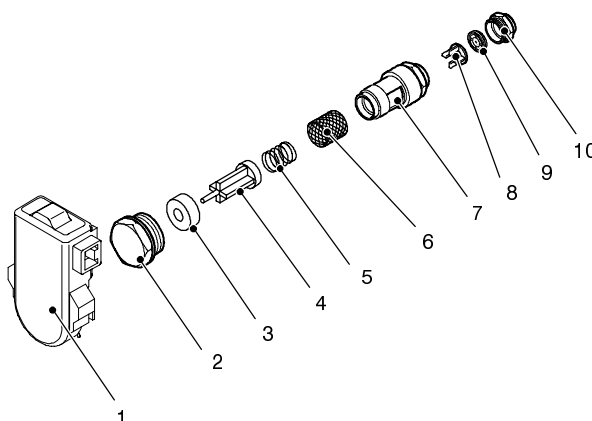

Fig. 58
When the flow rate through the d.h.w. circuit reaches about 2,5 litres/min', the float 4 (Fig. 58) is drawn towards the right. The resulting magnetic field of ring 3 increases and reaches the flow switch sensor 1. The sensor generates an electrical signal that switches the boiler d.h.w. operation ON.
14.2 Nomenclature and location of parts (Fig. 58)
- 4 Unscrew the plug 2 (Fig. 58) and extract the flow switch group.
- 5 To remove the filter from the flow switch group separate the body 7 from the plug 2 (Fig. 58) by unscrewing it.
Attention: the ring 3 (Fig. 58) has a magnetic polarity and must be correctly coupled with the spindle of the float 4.
- 2 Unscrew the threaded ring 10 (Fig. 58) and remove it from the body 7.